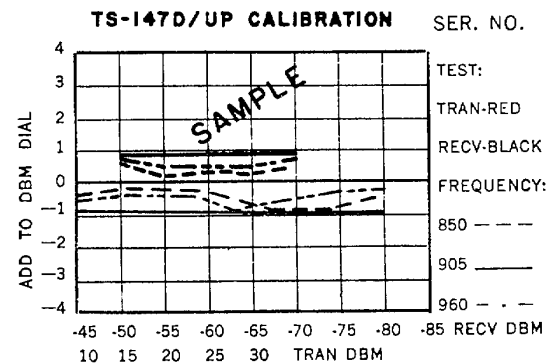

Figure 4-2. Typical Calibration Chart
(See figure 4-2.)
(1) Each DBM attenuator is individually calibrated and a correction curve is included with every test set. It is affixed to the inside of the cover of the carrying case over the list of contents decal.
(2) It will be seen that for the various dbm positions of the attenuator dial, positive or negative correction factors are indicated by the curves. These correction factors should be added to, or subtracted from (added algebraically to), the DBM dial readings to get the true attenuation for a particular measurement.
(3) Curves have been plotted for three frequencies, corresponding to each end (8500 and 9600 mc) and the center (9050 mc) of the operating range of the test set. The three curves in RED show the calibrations at these frequencies when the TEST knob is in the TRAN position. The three BLACK curves show (the corrections when the TEST knob is in the RECV position. (See figure 4-2.) 1
FIGURE 4-2 THE HEAVY LINES EXTENDING FROM +15 TO +35 DBM ON SURE 42 ARE FOR USE WHEN THE ST KNOB IS IN THE TRAN POSITION. THEY ARE PRINTED IN RED ON THE CALIBRATION CHARTS ISSUED WITH SE RADAR TEST SETS.